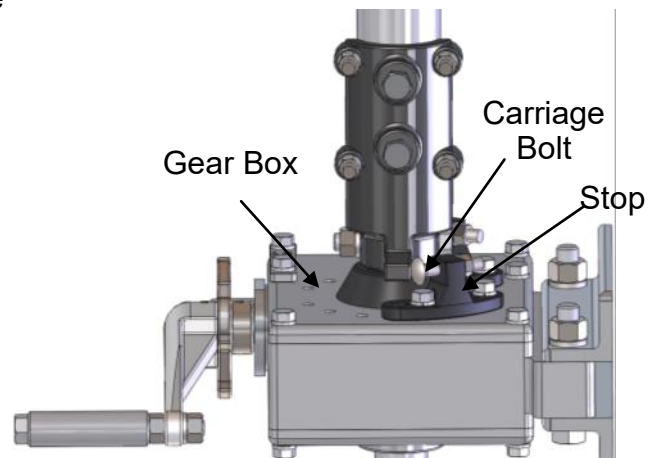

Figure 26 — Pipe clamp hitting carriage bolt
- 6. Reattach the closed stop to the top of the gear box. Position it so that the carriage bolt is making contact with the pipe clamp as shown in Figure 26. Tighten both bolts on the closed stop and the jam nut on the carriage bolt.